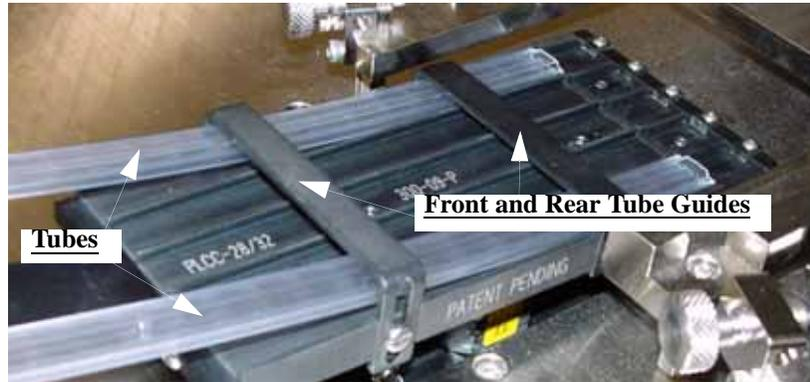

Figure 2-7—Adjust front and rear tube guides
- 4a) Insert empty tubes in the first and last lanes of the input tube loader. See *Figure 2-7*.
- 4b) Adjust the rear tube guide and the front tube guide so the tubes are held on the input tube loader snugly but are not compressed out of shape. See *Figure 2-7*.